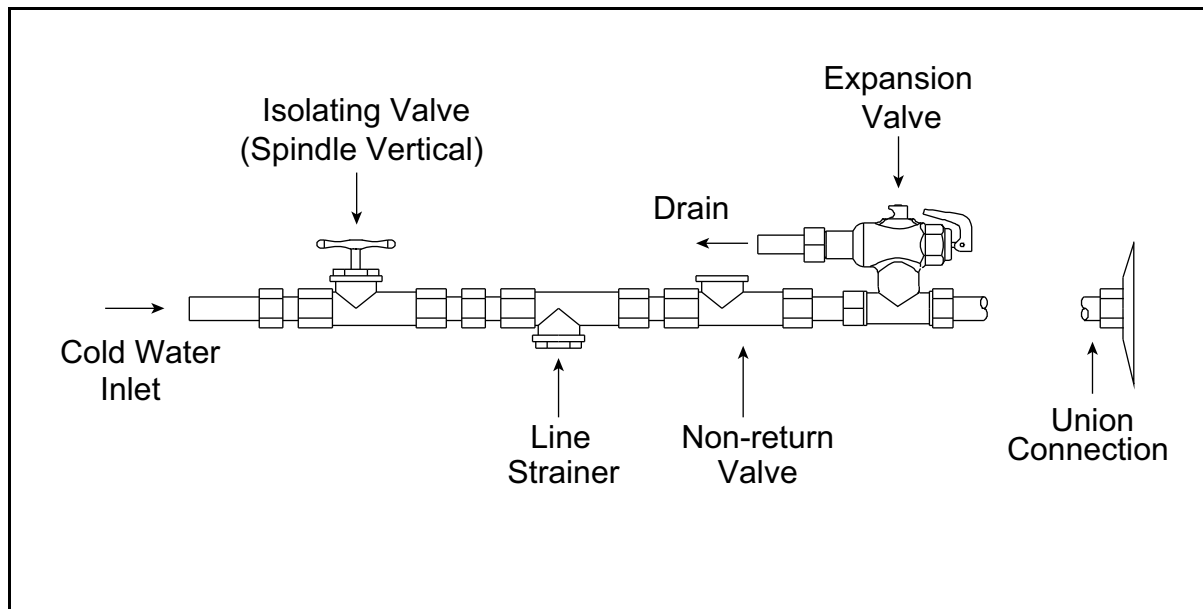

Figure 2 - Inlet Connections
It is a state requirement that a pressure relief valve be fitted on the cold water supply line between the non return valve and the water heater. Refer to Inlet Connections refer Figure 2.
3. Turn the knob to the ✱ pilot position. (Figure 2).